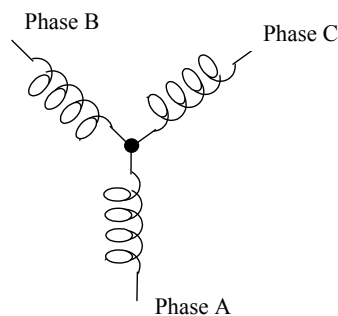

Figure 1.1: Three-Phase Wye Winding
- The Wye connection is so called because when you look at the phase relationships and the winding relationships between the phases it looks like a Y (Wye). Figure 1.1 depicts the winding relationships for a Wye-connected service. In a Wye service the neutral (or center point of the Wye) is typically grounded. This leads to common voltages of 208/120 and 480/277 (where the first number represents the phase-to-phase voltage and the second number represents the phase-to-ground voltage).
- Usually a Wye-connected service will have four wires; three wires for the phases and one for the neutral. The three-phase wires connect to the three phases (as shown in Figure 1.1). The neutral wire is typically tied to the ground or center point of the Wye (refer to Figure 1.1).